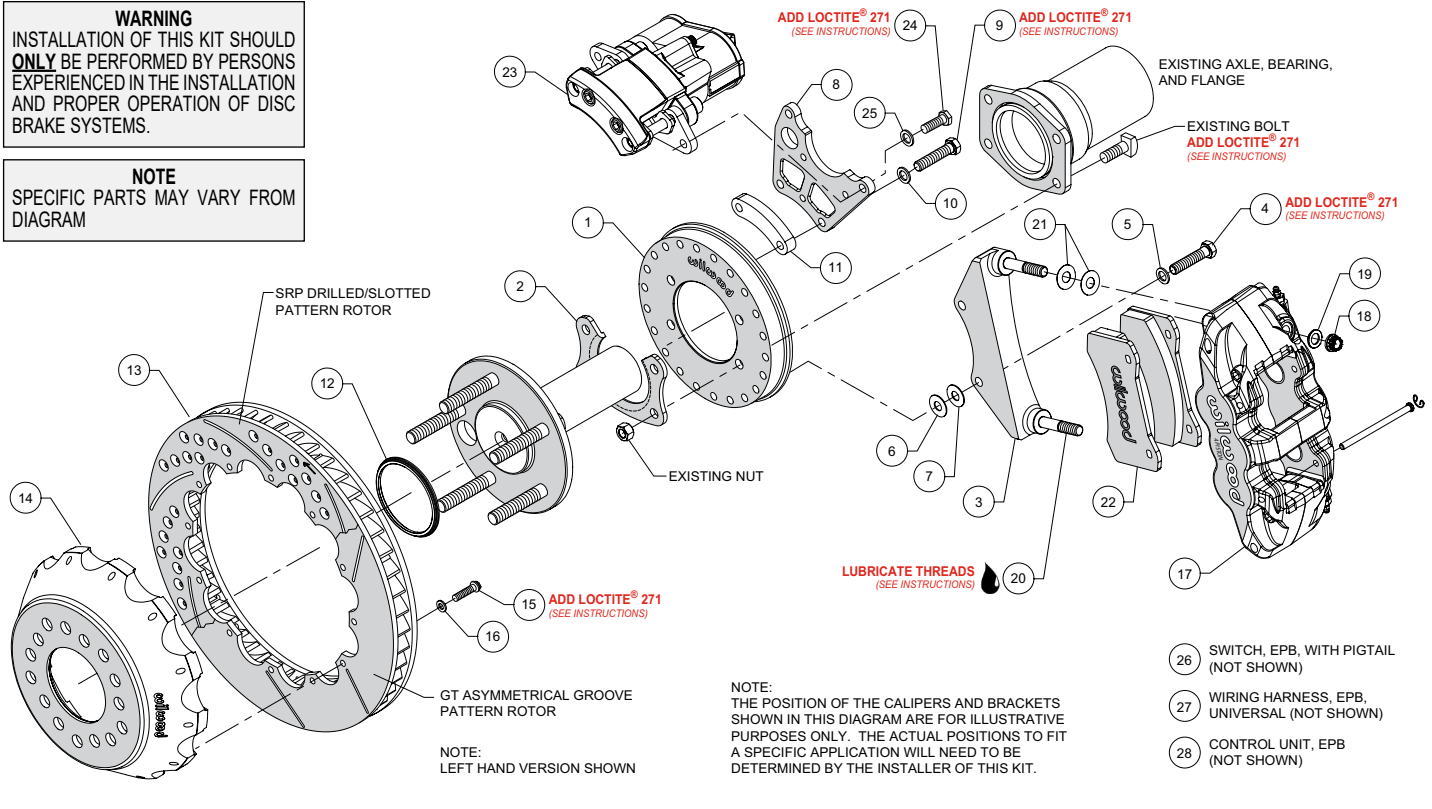
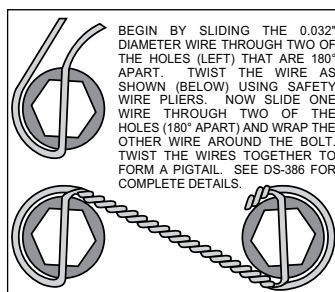

Figure 1. Typical Installation Configuration
Figure 5. Safety Wire Diagram
NOTE: Numbers in parenthesis refer to the parts list, and Figure 1 on the preceding pages.
- Orient the backing plate (1) as shown in Figure 1 and Photo 1, and slide it onto the axle housing flange. Ensure the backing plate fits flush against the axle housing flange. Reinstall the axle into the axle housing.
- Install the bearing retainer (2) with the opening pointing upward and the lip facing inward (toward the bearing), as shown in Figures 1 and 4, and Photo 2. Secure retainer and backing plate to the axle housing flange using the Original Equipment Manufacturer (OEM) bolts and nuts, Figure 1 and Photo 3. Apply red *Loctite*® 271 to the OEM bolt threads and torque to OEM specifications.
•Start by determining the best location for the service caliper (17). This caliper is usually mounted in the 3:00 or 9:00 o'clock position, but may be rotated up or down approximately 45 degrees and still allow for proper bleeding, Photo 4. Orient the service caliper bracket (3) as shown in Figure 1 and Photo 5, and install to the backing plate (1) in the desired location
using bolts (4) and washers (5). Temporarily tighten bolts. Next, mount the service caliper onto the bracket. Lubricate the caliper mounting studs (20) with lightweight oil. Mount the service caliper using lock nuts (18) and washers (19), Figure 1. Temporarily tighten the lock nuts. Check that the caliper (including inlet fitting and hose) has sufficient clearance to all surrounding components through the full suspension travel. Relocate the caliper/bracket on the backing plate as needed to ensure proper clearance is achieved.
•Determine the best location for the EPB caliper (23). **NOTE:** *The EPB caliper motor extends farther inboard than the service caliper and therefore needs additional consideration when determining a mounting location with sufficient clearance.* In the example application shown in Photo 6, the EPB caliper has sufficient inboard clearance to the leaf spring. However, if the EPB caliper were mounted closer to the 12:00 o'clock position, the inner body of the vehicle would hit the caliper during full compression of the suspension.
•Orient the EPB caliper bracket (8) as shown in Figure 1 and Photo 7, and install to the backing plate (1) in the desired location using bolts (9), washers (10), and spacer (11). Temporarily tighten bolts. **NOTE:** The EPB bracket is reversible. In one direction the bracket will position the EPB caliper closer to the service caliper, and vice versa if reversing the bracket. Next, mount the EPB caliper (23) to the bracket using bolts (24) and washers (25). Temporarily tighten bolts. **NOTE:** EPB calipers are Left and Right handed, however they can be used on either side of the vehicle to best suit your specific application. Check that the EPB caliper (including wiring harness connector) has sufficient clearance to all surrounding components through the full suspension travel. Relocate the EPB caliper/bracket on the backing plate as needed to ensure proper clearance is achieved.
•Orient the rotor (13) and the hat (14) as shown in Figure 1 and Photo 8. Attach rotor to hat using bolts (15) and washers (16). Using an alternating sequence, apply red Loctite® 271 to the threads, and torque to 155 in-lbs. For an added measure of security, the bolts may be safety wired using standard 0.032 inch diameter stainless steel safety wire as shown in Figure 5. Please refer to Wilwood's data sheet DS-386 (available at www.wilwood.com/Pdf/DataSheets/ds386.pdf) for complete safety wire installation instructions.
•Initially place two .030" thick shims (21) on each stud of the service caliper bracket (3), as shown in Figure 1 and Photo 10. Mount the caliper onto the bracket using lock nuts (18) and washers (19), Figure 1. Temporarily tighten the lock nuts and view the rotor through the top opening of the caliper. The rotor should be centered in the caliper, Photo 11. If not, adjust by adding or subtracting shims (6 and/or 7)) between the service caliper bracket (3) and the backing plate (1). Always use the same amount of shims on each of the two mounting bolts. Once the caliper alignment is correct, remove the bracket mounting bolts (4) one at a time, apply red Loctite® 271 to the threads, and torque bolts to 35 ft-lb.
- Remove the service caliper (17), then remove the two pad retaining pins from the caliper by carefully popping out the pin retaining clips and sliding out the pins. Insert the brake pads (22) into the caliper from the bottom, Figure 1 and Photo 12. With the friction material facing the rotor, secure the brake pads in place with the pad retaining pins and clips, Photo 13. Reinstall the caliper onto the mounting bracket and temporarily tighten the lock nuts. Check that the top of the brake pad is flush with the outside diameter of the rotor, Photo 14. If not, adjust by adding or subtracting shims (21) between the caliper and the bracket. After the caliper pad height is set, torque the caliper lock nuts (18) to 47 ft-lb.
- Mount the EPB caliper (23) onto the caliper mounting bracket (8) using bolts (24) and washers (25), Figure 1. Apply red *Loctite*® 271 to bolt threads, and torque to 30 ft-lb.
- NOTE:** *The service caliper (17) in this brake kit utilizes a 1/8-27 NPT pipe thread inlet. OEM rubber brake hoses generally cannot be adapted to Wilwood calipers. The preferred method is to use steel adapter fittings at the caliper, either straight, 45 or 90 degree (use PTFE tape on pipe threads for proper sealing to caliper) and enough steel braided line to allow for full suspension travel. Carefully route hoses to prevent contact with moving suspension, brake or wheel components. NOTE: Wilwood hose kits are designed for use in many different vehicle applications and it is the installer's responsibility to properly route and ensure adequate clearance and retention for brake hose components. Wilwood offers universal brake flex line hose kits, domestic (3/8-24 IF) chassis fittings, order:*